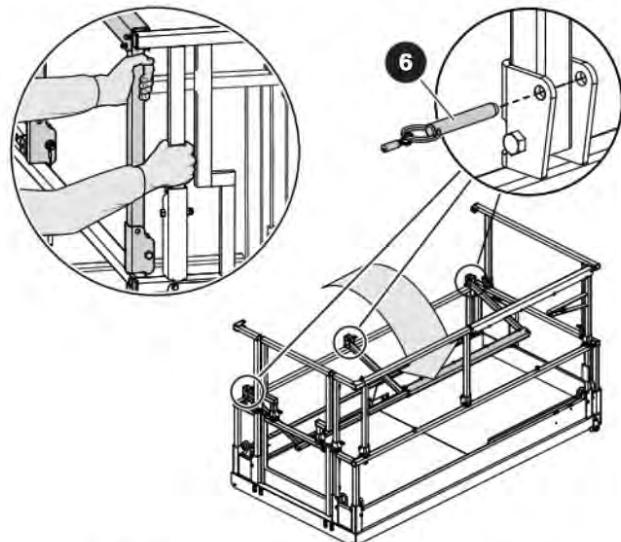

Figure 3-19. Fold down the left guardrail.
13. Move to the left side of the MEWP. Remove the front and center mid-rail pins. Then, remove the rear pin. Hold the vertical bar of the extension guardrail with one hand and fold down the left guardrail with the other hand (refer to Figure 3-19 for hand positions). Lock into place by installing mid-rail pins ⑥. Ensure the detent ball of the pin is all the way through.
14. Move to the right side of the MEWP. Remove the front and center mid-rail pins. Then, remove the rear pin. Hold the vertical bar of the extension guardrail with one hand and fold down the right guardrail with the other hand (refer to Figure 3-19 for hand positions). Lock into place by installing mid-rail pins ⑦. Ensure the detent ball of the pin is all the way through.